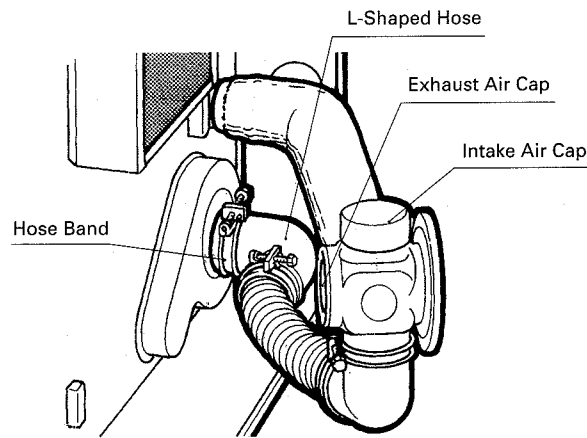

Fig. 10
6. Insert the bent joint to the exhaust mouth of the standard flue pipe. Cut the inlet hose for desired length if necessary. Attach the L-shaped hose to each end of the inlet hose and attach the L-shaped hose to the intake mouth of the standard flue pipe. Secure the L-shaped hose to the intake mouth with the hose band. Plug the unused exhaust and intake mouth with the caps provided with the heater. Make sure the caps fit tightly onto the mouth (See Fig. 10).